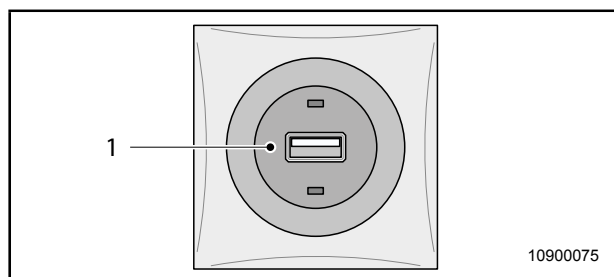

Fig. 67 USB socket
Some caravan layouts have a USB socket located in the living area (Fig. 67, item 1) that can be used to connect suitable devices for charging.